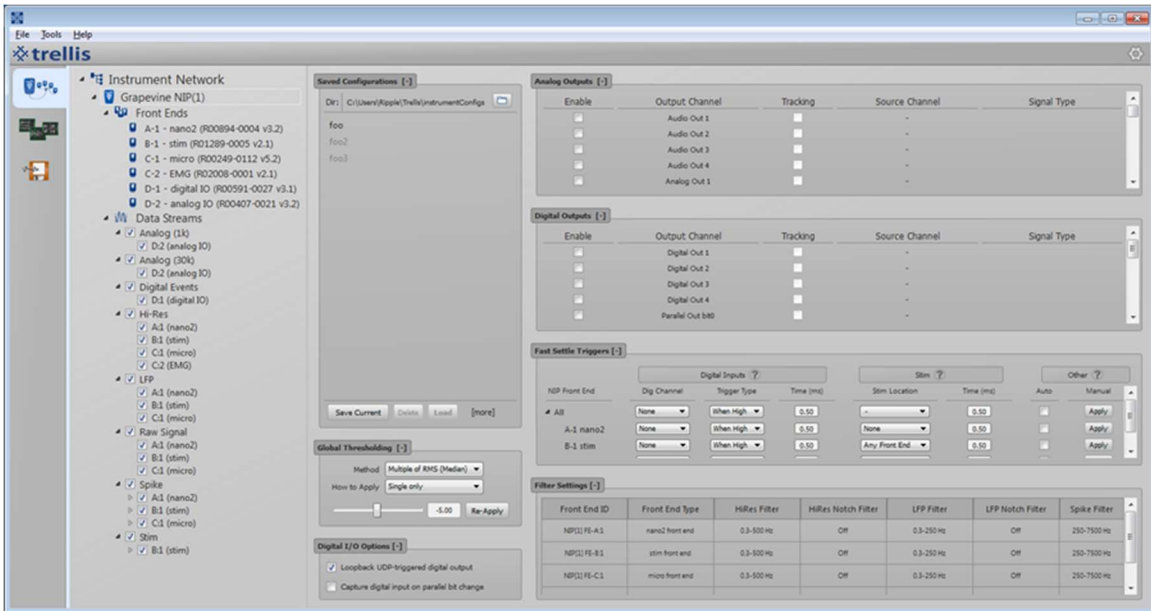

Figure 3-7 Trellis Instruments – Grapevine system configuration
The main Trellis program presents three tabs on the left side of the window (Instruments, Applications, and File Save) that provide access to different aspects of program functionality. The color scheme for Trellis and which messages are displayed can be set from the Trellis Settings window, as shown in Figure 3-2. These options can be accessed from the Tools menu or from the Settings icon located at the top right of the Instrument Configuration panel shown in Figure 3-7.
- Information about a Grapevine system can be accessed by selecting the corresponding entity in the Instrument Network. Selecting the “Grapevine NIP(1)” item in the Instrument Network brings up an interface to configure the Grapevine NIP, as shown in Figure 3-7.
Trellis automatically detects which Front Ends (FEs) are connected to the Grapevine processor and displays the appropriate configuration panels, as shown in Figure 3-7. Each configuration panel can be expanded or collapsed by clicking the [+] or [-] symbol to the right of the panel title.